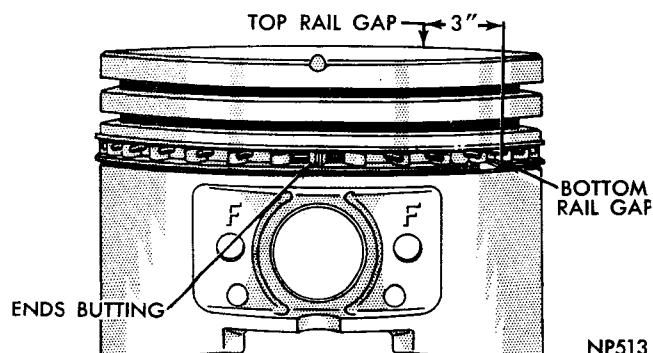
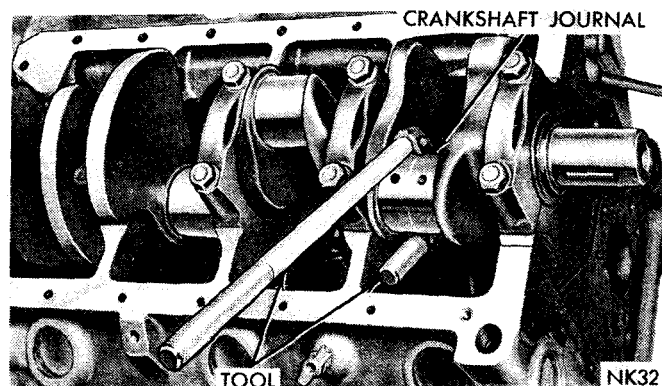

Fig. 42—Proper Oil Ring Installation
Fig. 46—Removing or Installing Connecting Rod
(4) On 318 or 360 Cubic Inch Engine, the keys on the spacer expander must be inserted into the hole in the oil ring groove over the piston pin front boss (Fig. 42).
(2) Before installing the ring compressor, make sure the oil ring expander ends are butted and the rail gaps located as shown in (Fig. 42).
(3) Immerse the piston head and rings in clean engine oil, slide the ring compressor, Tool C-385, over the piston and tighten with the special wrench (part of Tool C-385). **Be sure position of rings does not change during this operation.**
(4) Install connecting rod bolt protectors on rod bolts, the long protector should be installed on the numbered side of the connecting rod.
(5) Rotate crankshaft so that the connecting rod journal is on the center of the cylinder bore. Insert rod and piston into cylinder bore and guide rod over the crankshaft journal (Fig. 46).
(6) Tap the piston down in cylinder bore, using a hammer handle. At the same time, guide connecting rod into position on crankshaft journal.
(7) The notch or groove on top of piston must be pointing toward front of engine and the larger chamfer of the connecting rod bore must be installed toward crankshaft journal fillet.
(8) Install rod caps, tighten nuts to 45 foot-pounds.